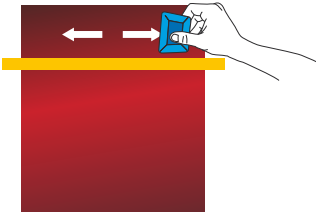

Figure07
- ▶ Start applying the film with a squeegee (previously covered with felt), by forming a 45° angle with the substrate, and by working from the centre towards the edges. (FIG. 07)